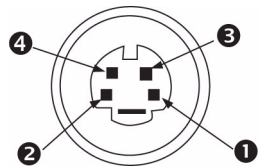

Figure 6.3 Y/C Connection Pinout
There is one (1) mini-DIN type connector for the S-Video (Y/C) input (see *Figure 6.3*).